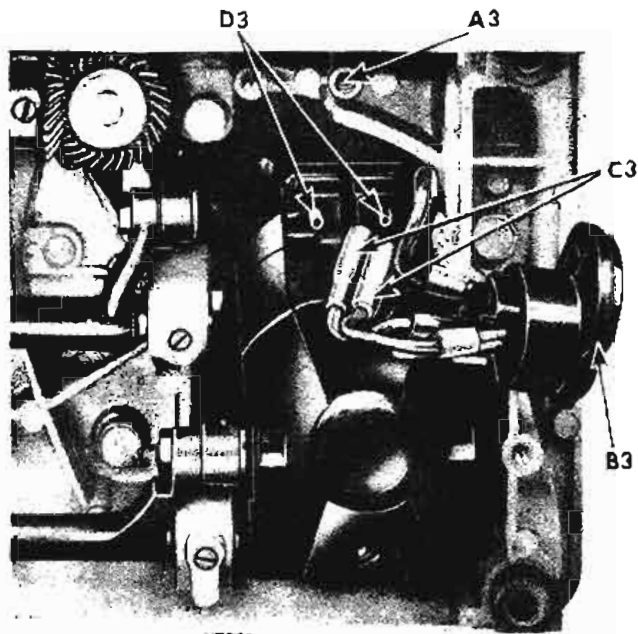

Fig. 51. Removing Motor
3. Remove motor hold-down plate by removing screw from hole A3, Fig. 51.
4. Displace male half of terminal connection B3, as shown in Fig. 51.
3. Fit electrical sleeve connections C3, Fig. 51 to motor terminals D3.
4. Remove two light lead terminals from terminal connection B3, Fig. 51. (See WIRING DIAGRAM on page 43.)
2. Connect two light lead terminals to terminal connection B3, Fig. 51. (See WIRING DIAGRAM on page 43.)